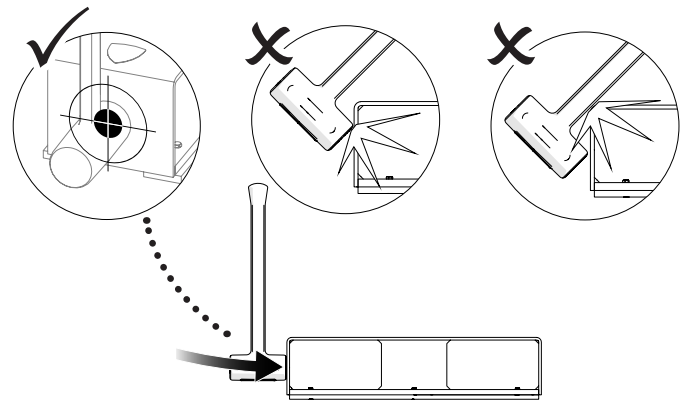

Figure 5. Optimal Strike Angle Illustration
- Keep the optimal strike angle where the hammer head makes impact at a right angle to the end of the Striking Block (see Figure 5).